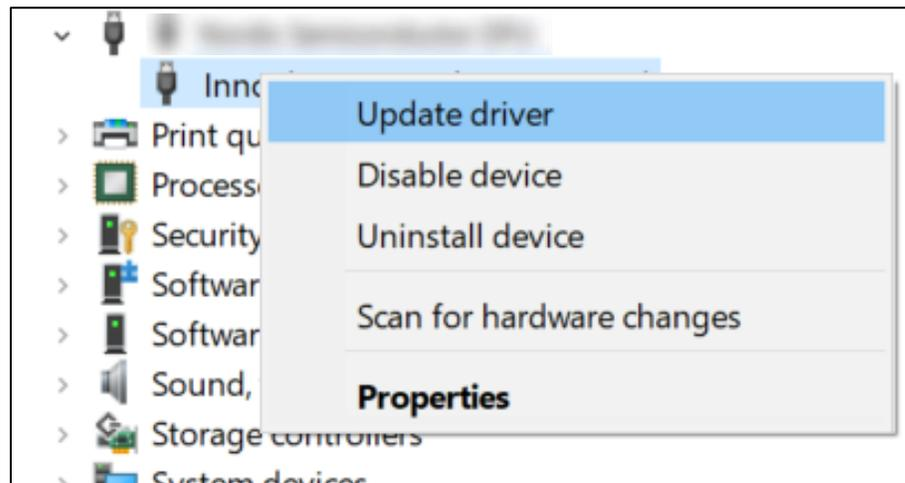
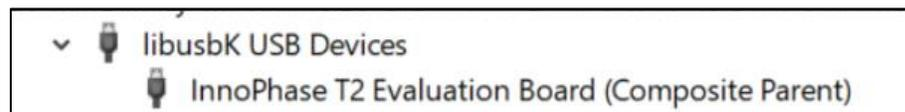

Figure 3: Update device driver for Talaria TWO Evaluation Board
Figure 4: Talaria TWO Evaluation board under "libusbk USB Devices" driver
- a. Device found: EVK serial number field in the download tool GUI is populated with appropriated EVK serial number. In this case, ignore the error message “`Driver Installation Failed`” and continue using the tool. To avoid this from happening repeatedly, update the driver for Talaria TWO Evaluation Board to “`InnoPhase T2 Evaluation Board`” driver, from device manager (as shown in Figure 3). Then, ensure the Talaria TWO Evaluation Board is detected under “`libusbK USB Devices`” in device manager (as shown in Figure 4).
- b. No device found: Manually install the driver using instructions from section: Installation Instructions for libusbK Driver and ensure that the Talaria TWO Evaluation Board is detected under libusbK USB Devices driver (as shown in Figure 4).